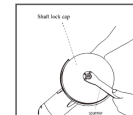

Fig4
2. To tighten the outer flange, press the shaft lock firmly so that the spindle cannot revolve, then use the lock nut wrench and securely tighten clockwise.(Fig 4)